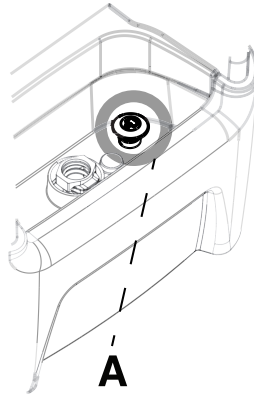

Figure 1-31: Drain plug
20. Pull up on the controller drain plug (Figure 1-31 on page 1-44) to open the drain.